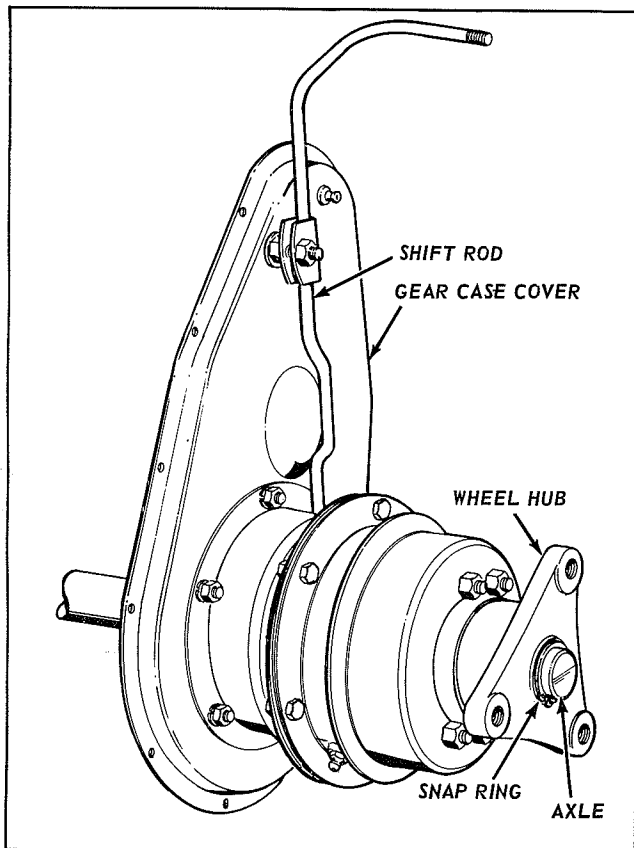
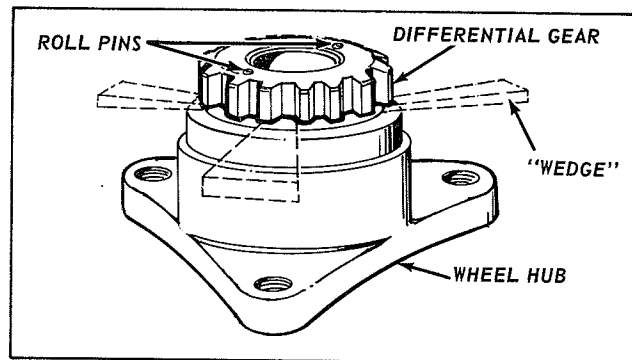

Figure 2
Figure 3
4. To remove the right hand wheel hub from the axle, remove the snap-ring from the end of axle and slide the wheel hub off of end of axle. Refer to Figure 2. The right hand wheel hub has the side differential gear attached to it by 4 roll pins. Two of the roll pins are smaller in diameter than the other two, and fit inside of the larger ones. To remove the gear from the wheel hub, it will be necessary to drive a wedge between the gear and the hub at various points around the gear until the gear is free of the roll pins. Refer to Figure 3.